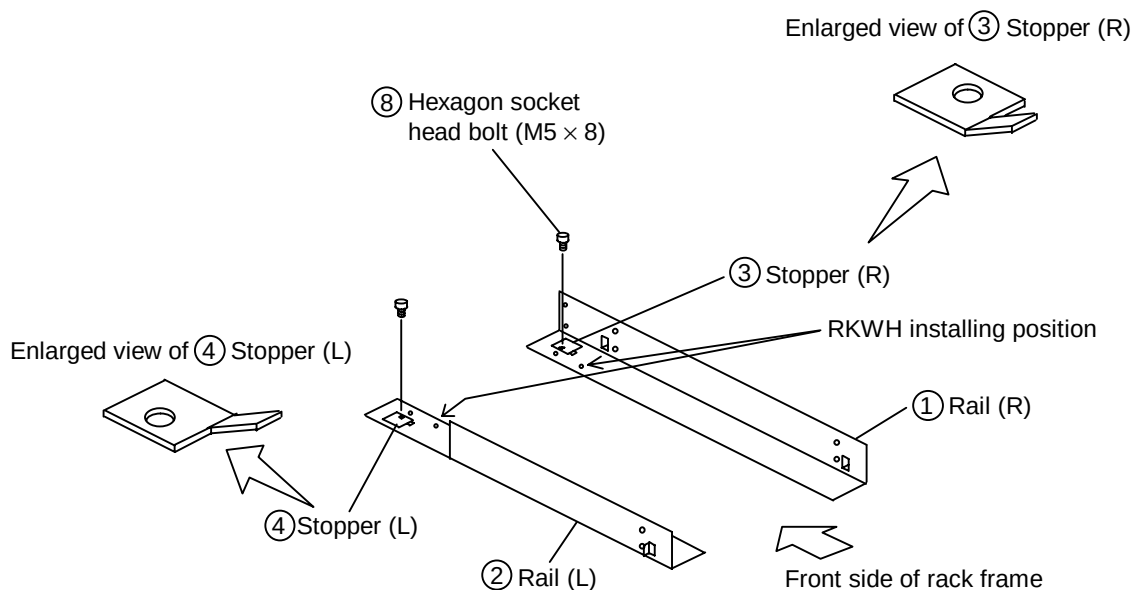

Figure 3.4.3 Temporary Attachment of the Stopper
3.4.3 Installing the rails (See Figure 3.4.3 and 3.4.4.)
- (1) Temporarily secure the ③ Stopper (R) to the ① Rail (R) using ⑧ Hexagon socket head bolts (M5 × 8). (See Figure 3.4.3.)